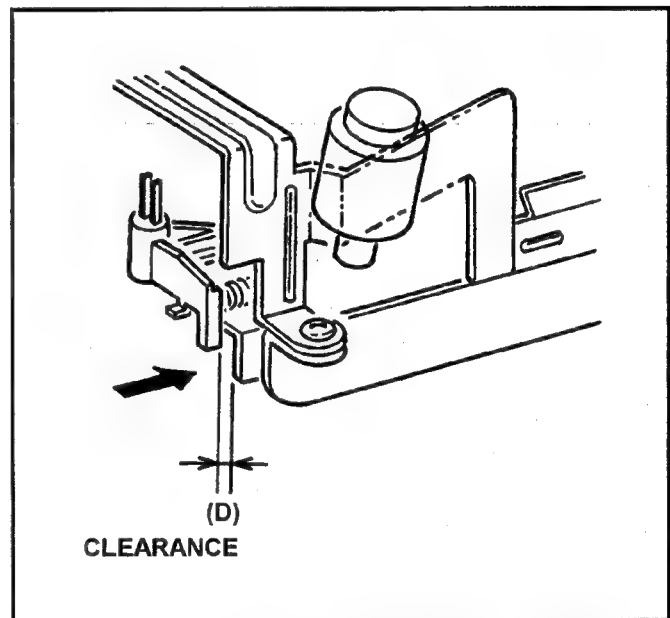

Fig. 6-15-2 Cleaner Solenoid Position Adjustment
2. Observe the clearance (D) between Cleaning Arm Unit and Cleaner Base Plate as shown in Figure 6-15-2. And make sure that it is within 0.5 to 0.7mm.
3. If not, loosen the 2 screws (A) and adjust the position of Cleaner Solenoid Unit by moving arrow direction (C⇔C) using the Eccentric drive so that the clearance (D) is within specification. And tighten the 2 screws.